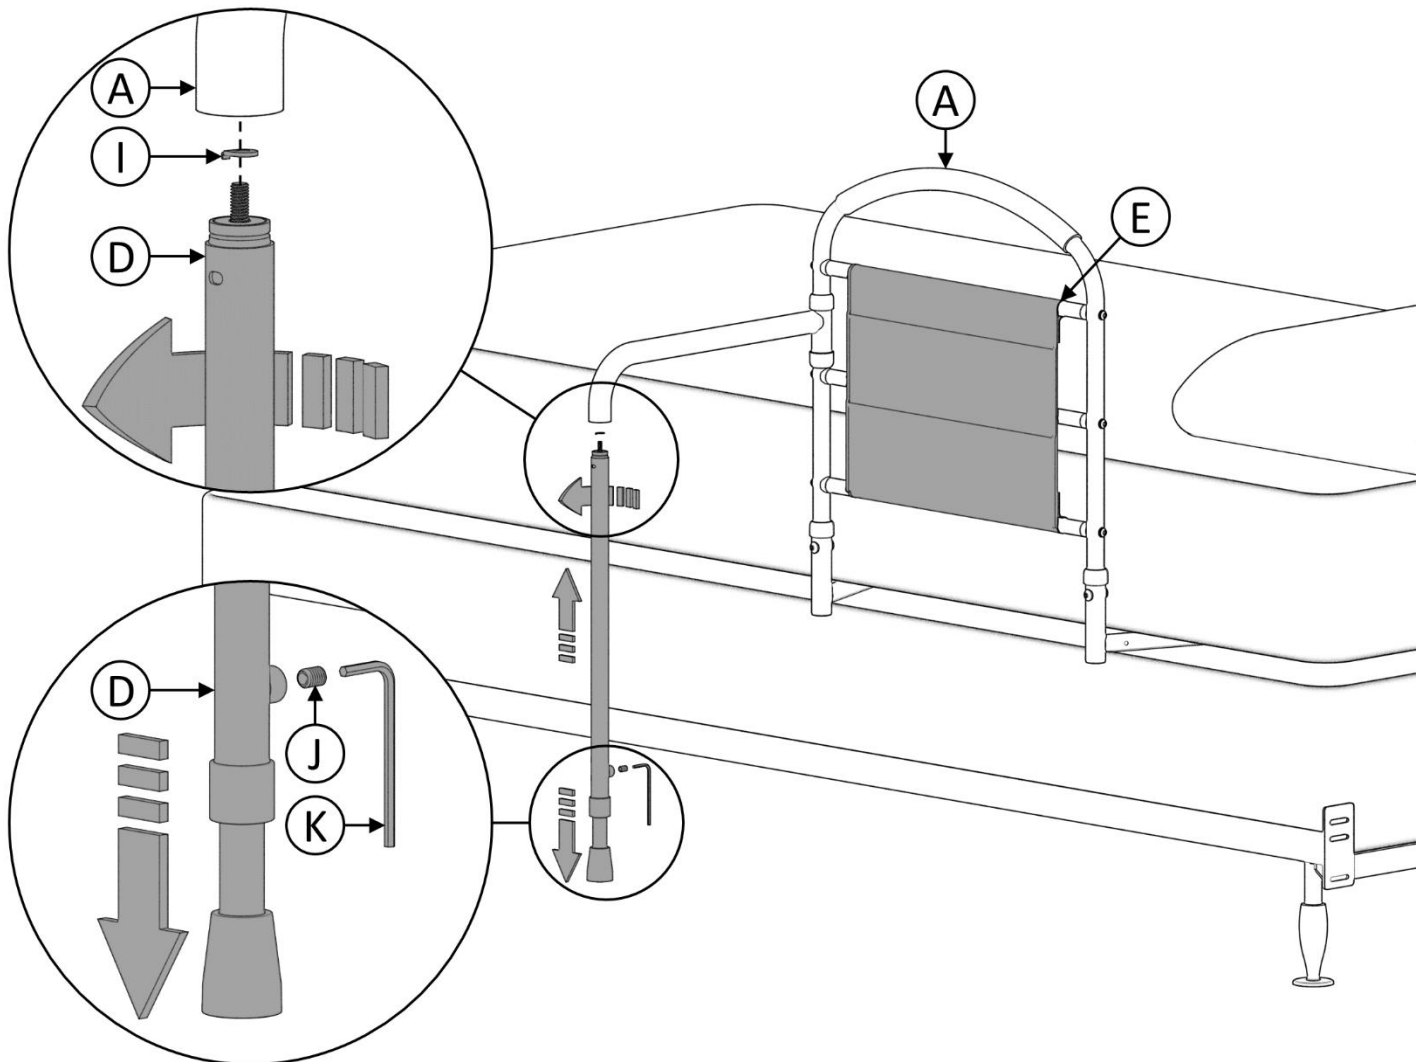

FIGURE 4
4. Attach Pouch **E** to Rails on **A**. Insert the threads on **D** through Lock Washer **I** and fully screw into the Rotating Arm on **A**. Insert Product into position between Mattress and Frame/Box Springs. With the arm on **A** in its lowest position, extend the bottom of Leg **D** until the foot is pressed against the floor. Insert Set Screw **J** into **D** and tighten using provided tool **K**, as shown in *FIGURE 4*.